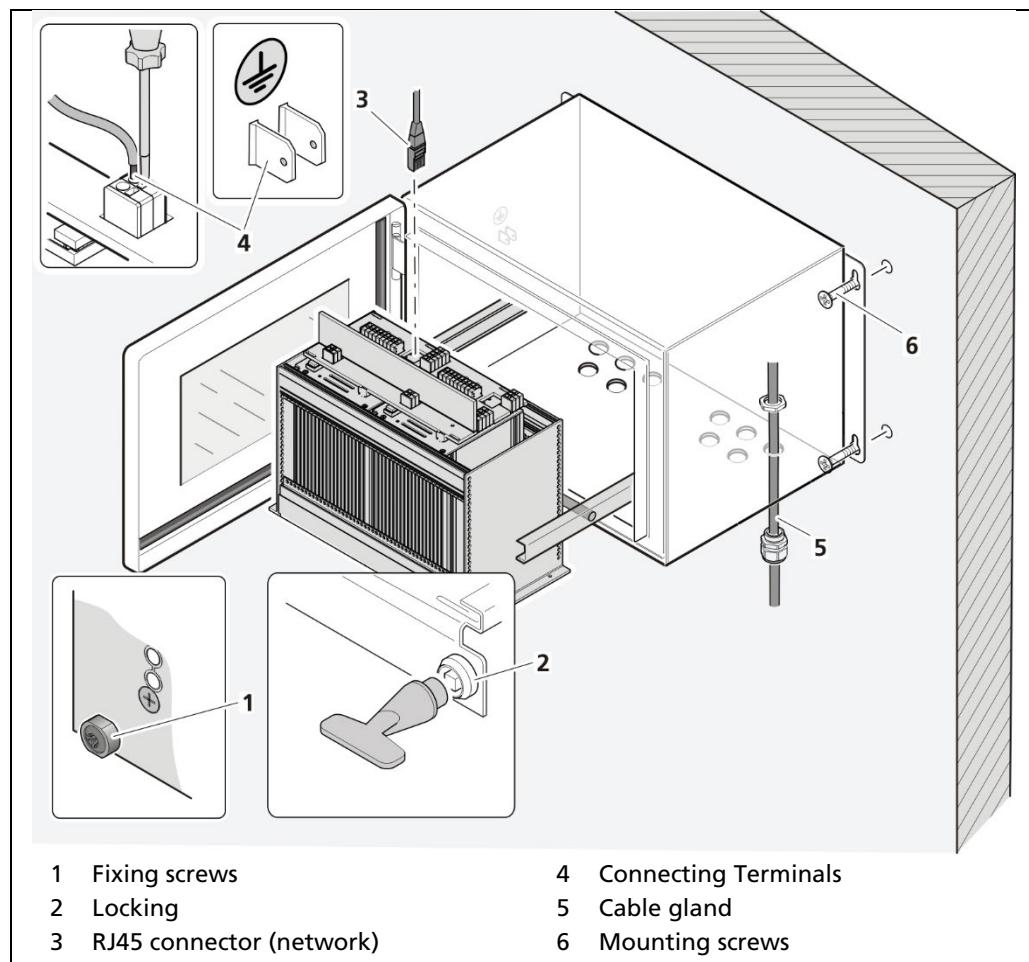

Fig. 147 Decommissioning wall housing
1. Make sure that the locking bolts (Fig. 147, item 1) of all modules are tightened in order to prevent slipping.
2. Loosen the lock (Fig. 147, item 2) using the supplied square key and pull the subrack out.
5. Remove the network plug (Fig. 147, item 3).
7. Loosen the cable gland (Fig. 147, item 5) on the bottom side of the wall housing and pull all cables from the wall housing.
9. Loosen the mounting screws (Fig. 147, item 6) and remove the wall housing.